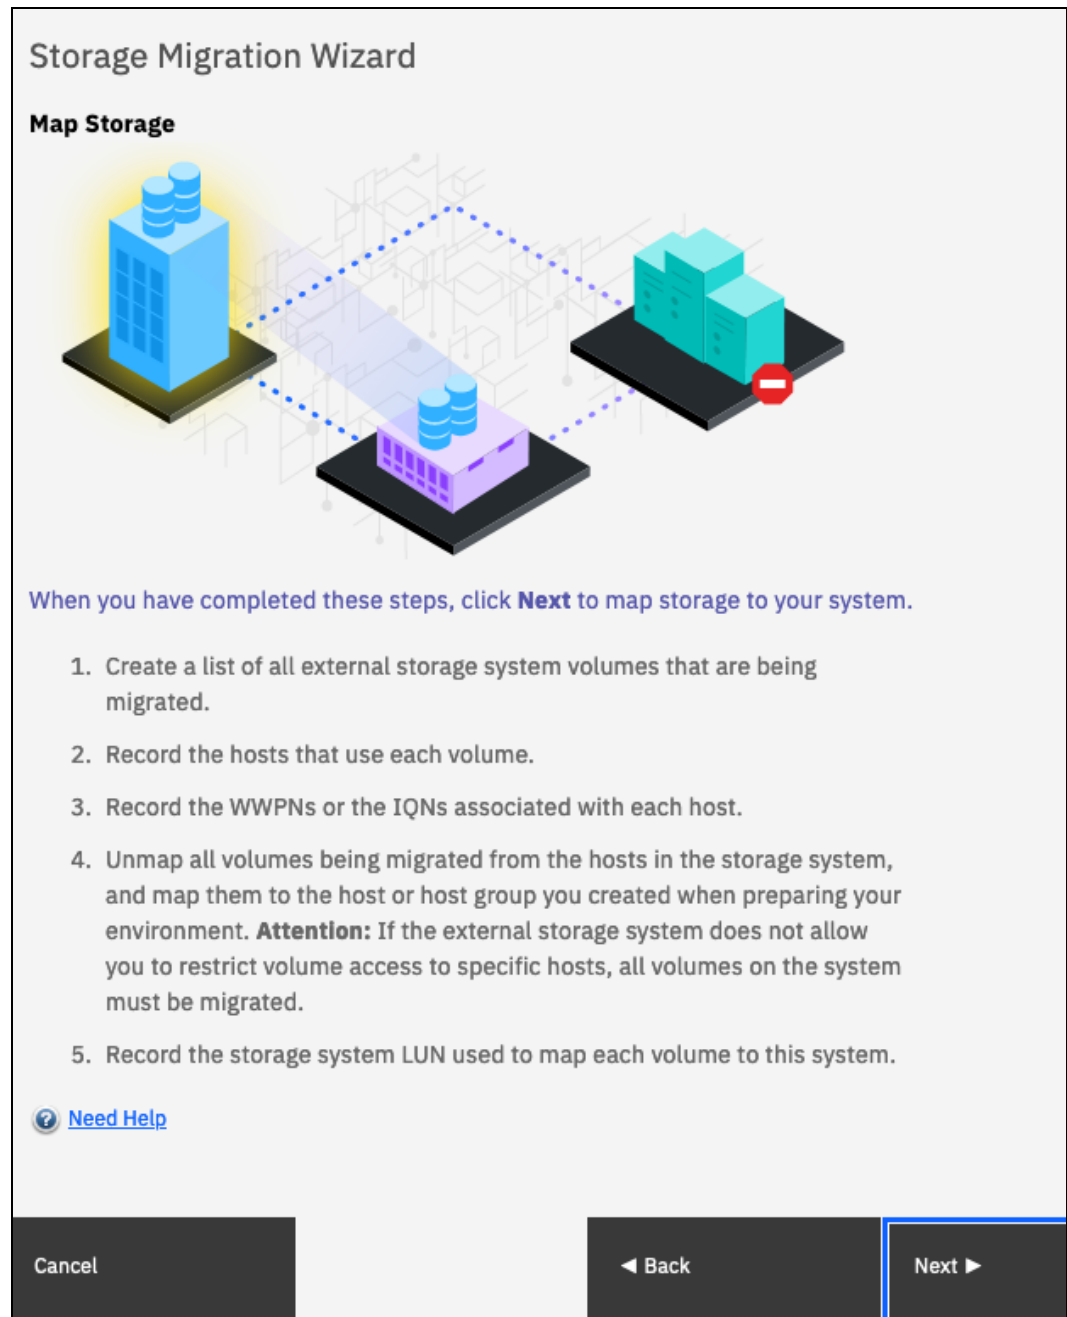

Figure 8-6 Steps to map the LUs to be migrated
6. If the previous preparation steps were followed, the IBM FlashSystem is now seen as a host from the controller to be migrated. LUs can then be mapped to the IBM FlashSystem. Map the external storage controller by following the instructions that are shown in Figure 8-6.